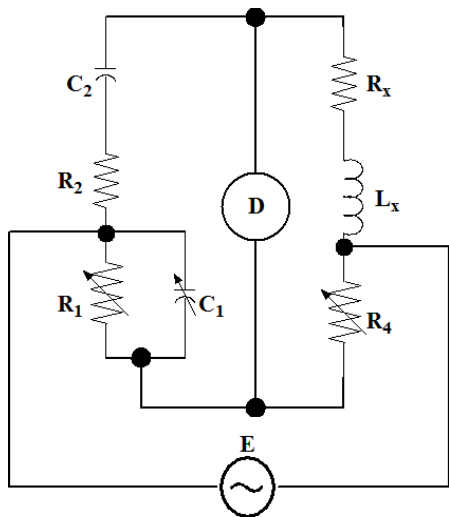
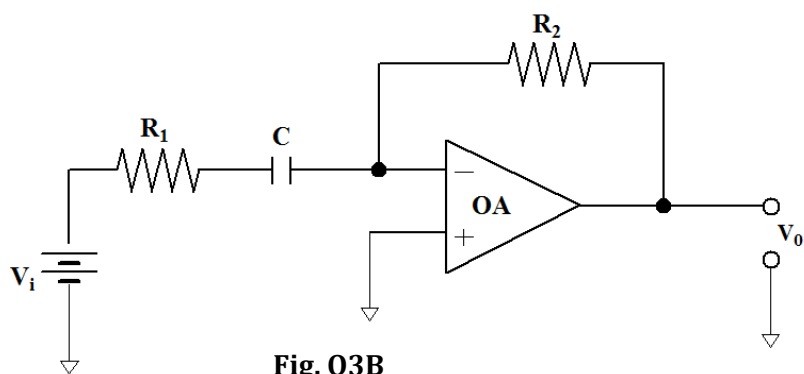
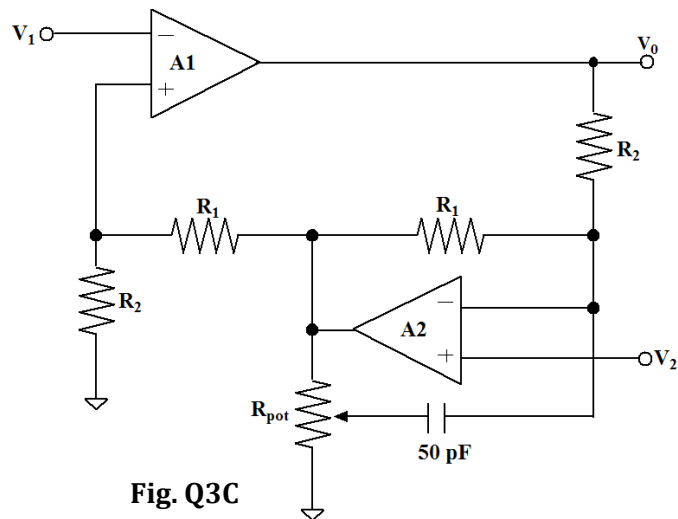

Fig. Q2A
Fig. Q3B
Fig. Q3C
- 2A.** An AC Bridge as shown in the **Fig Q2A**, is used to measure an unknown inductance L_x , which has inherent resistance R_x . The bridge parameters are $R_1 = 20k\Omega$; $R_2 = 50k\Omega$; $C_2 = 0.0037\mu\text{F}$. The operating frequency $\omega = 10^5 \text{ rad/sec}$. C_1 is adjustable from 10pF to 150pF and R_4 is adjustable from 0 to $10k\Omega$. Derive expressions for R_x and L_x to show that resistive and reactive balance are independent of each other. Also determine the largest values of R_x and L_x that can be measured with given parameters. **(03)**
- Plot the electric field variation with respect to the radius (E_r v/s r) if $E_{r_{\max}} = 100\text{ V/m}$. **(Use the graph sheet provided)** (04)
- 3A. With a neat diagram, derive the mathematical model of a piezoelectric transducer when connected to an ideal charge amplifier. Further comment on its output variation according to variation in the frequencies of the input signal. (03)
- 3B. Inserting a resistance R_3 in parallel with capacitance C in the high pass filter shown in **Fig. Q3B** turns it into a circuit known as zero-pole circuit that finds applications in control.
- Specify standard component values for a zero frequency of 100 Hz , a pole frequency of 1 KHz and a high frequency gain of 0dB . (03)
- 3C. A dual OPAMP instrumentation amplifier shown in **Fig. Q3C** offers an advantage in that a high CMRR can be obtained via appropriate adjustment of the pot. Derive its mathematical model and prove that:
- $$V_0 = \left(1 + \frac{R_2}{R_1}\right)(V_2 - V_1) \quad (04)$$
- Output voltage (03)
- 4B. With an appropriate schematic of a 10 bit successive approximation A/D converter employing SAR, obtain the equivalent binary output for an analog voltage input of 0.6 V . Consider the reference voltage to be 1 V . Highlight all the steps involved in this A/D conversion process. (03)
- 4C. With neat diagram, explain the operation of analog signal isolation using the magnetic medium. Highlight the importance of signal modulators as well as signal demodulators in the process. (04)
- 5A. With the help of neat schematic describe the working of R-2R Ladder Network DAC. Prove that for digital input of 0100 equivalent analog voltage is $(-V_s/4)$ with appropriate circuit connections. Assume V_s as reference/source voltage. (03)
- 5B. With a neat diagram, explain the various elements of a Distributed control system (DCS). Also list out the advantages of using DCS for process control. (03)
- 5C. With the help of neat block diagram explain working of a Digital Energy Meter focusing on signal measurement, its conditioning as well as its display. (04)